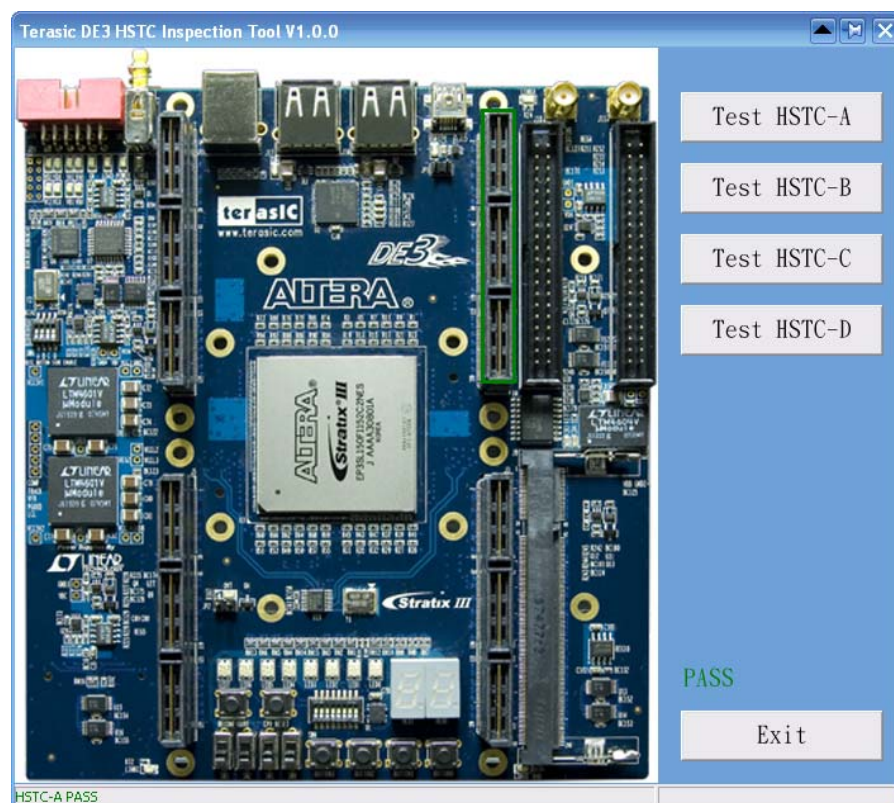

Figure D.4. The test result of the HSTC connector A
7. The test result will be reported on the panel of the DE3\_HSTC utility as shown in Figure D.4.